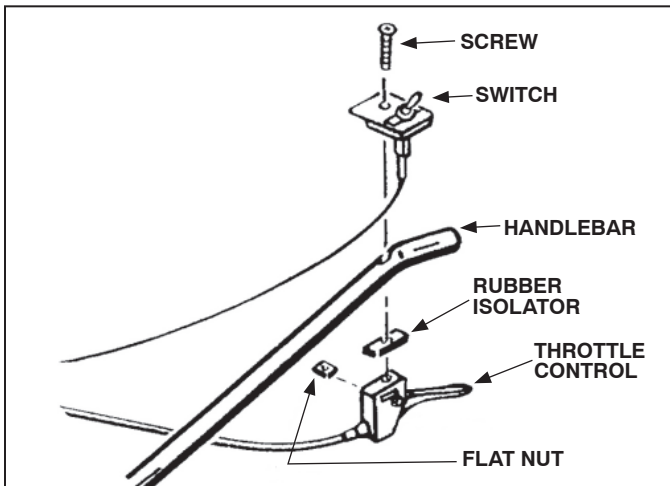

Fig. 3
4. Push 2 terminals of kill wire (See Fig. 3) onto 2 prongs of shut off switch.